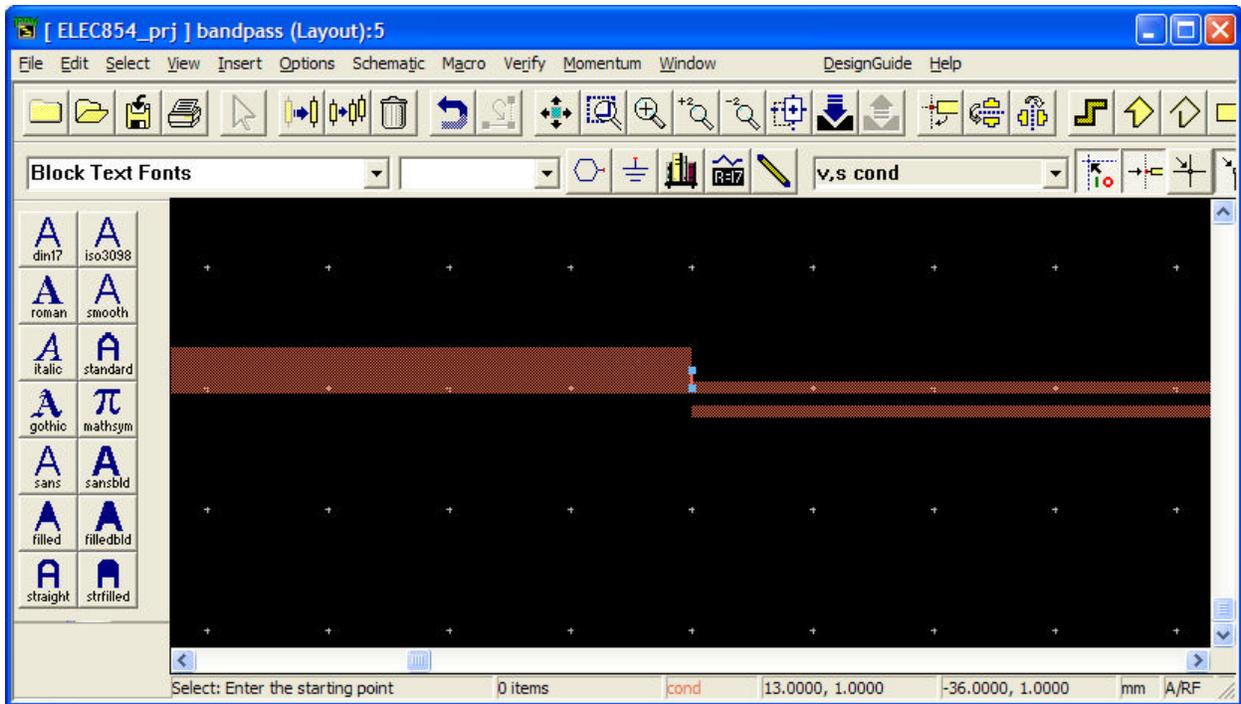

Figure 3 Bandpass Filter Layout
16. Zoom in on the transition between the 50 Ω line and the first coupled line. Note that the 50 Ω line is shorting the coupled lines. To rectify this problem shift the line upwards. First determine how much you have to move it upwards by using the ruler: *Insert->Measure*. The result is 0.143 mm. Select the transmission line by clicking on the left mouse button and then *Edit->Move->Move Relative* type X = 0 and Y = 0.143. Do not type the units. The result should look like **Figure 3**. Now, go to the transmission line at the other end of the filter and move it as well.